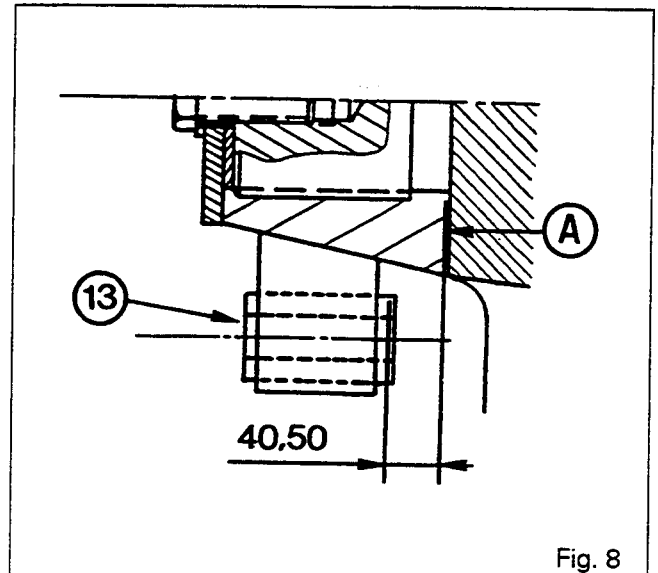
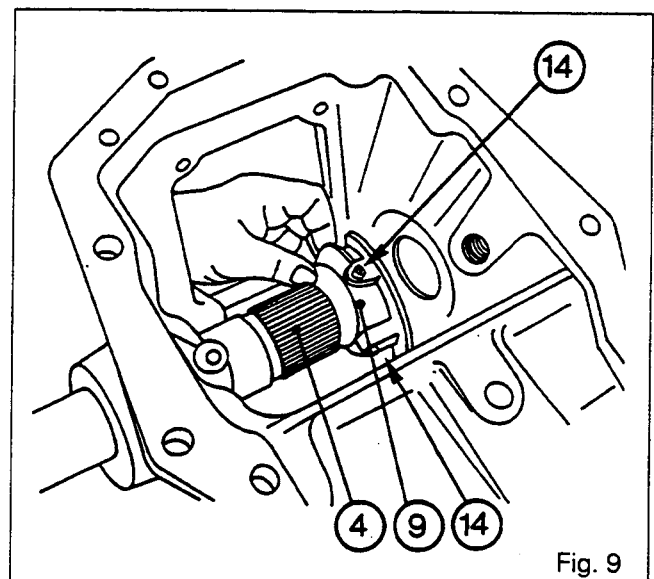
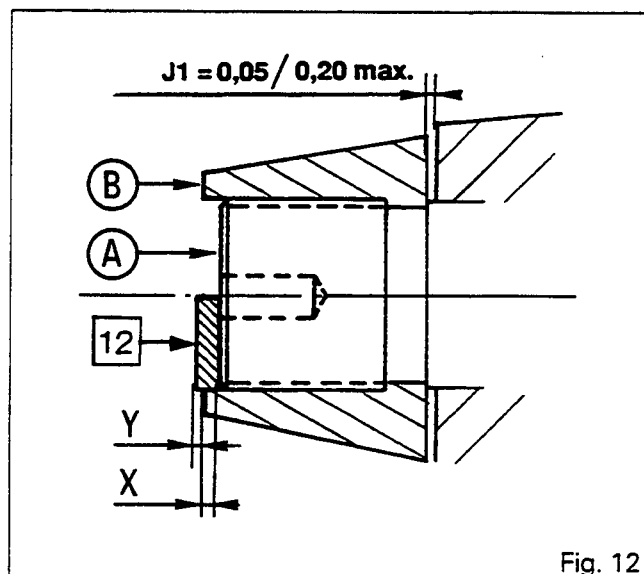
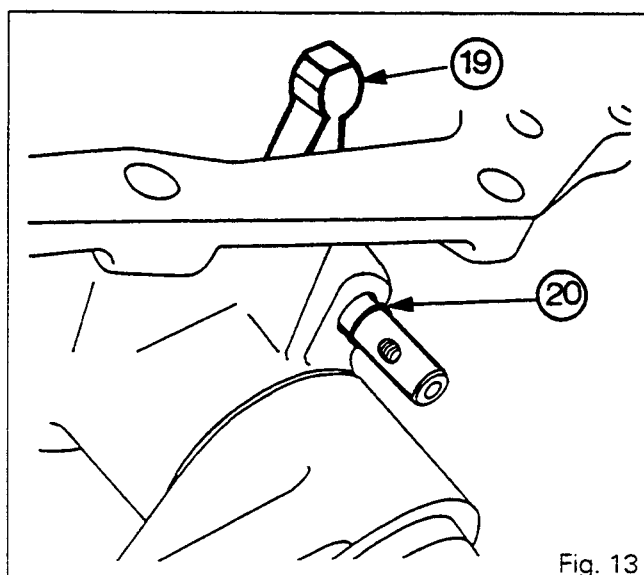

Fig. 8
Fig. 9
Fig. 12
Fig. 13
**Note:** The bushes (13) are mounted with Loctite 648 at a distance of 40.50 mm from the face A (Fig. 8).
33. Fit the bushes (8) in the cover.
34. Fit the cup plug (17) smeared with Loctite 542 flush with the cover (2- speed p.t.o.).
35. Mount the lift shaft (4) and the cam (9) in the cover (Fig. 9).
36. Tighten the set screws (14) smeared with Loctite 241 to a torque of 5 Nm (Fig. 9).
37. Position the O-rings (7) and the nylon rings (6).
38. Grease the splines of the shaft (4) (Anti-Seize Grease or equivalent).
39. Fit the lift arm (5) (sensor side), the washer (1), the retainer (3) and the screw (2).
40. Tighten the screw (2) so as to align two flat sides of the screw head with the two tabs of the retainer (3). Bend back the tabs.
**Note:** If work has been done without the need to carry out shimming J1 (Fig. 12) (eg. replacement of seals) it is essential to place the shims [12] at the left end of the shaft (factory fitting) to preserve the correct positioning of the cam and avoid having to adjust the sensor (26).
41. Carry out shimming of the shaft (4) (Fig. 12) to obtain end play :
45. By measuring dimension X, determine the thickness of spacers Y needed to obtain (Fig. 12):
46. Mount the previously selected shims [12], the washer (1), the retainer (3) and the bolt (2).
47. Tighten the bolt (2) so as to align two flat sides of the screw head with the two tabs of the retainer(3). Bend back the tabs.
48. Refit the finger (19) (Fig. 13).
49. Mount the O-ring (20) from the exterior side of the cover (Fig. 13).
50. Smear the screws (18) and (22) with Loctite 241 and tighten.
52. Fit the elbow connector (23).